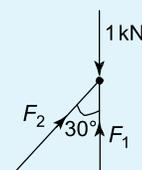

Figure 6.43
2. The value of  $F_1$  in Figure 6.43 is:
3. The value of  $F_2$  in Figure 6.43 is: